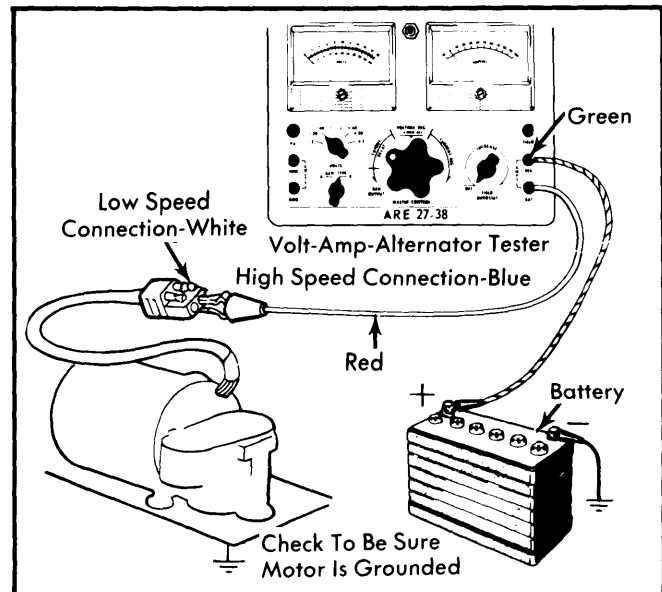

Fig. 3 Motor Current Draw Test Bronco and "F" Models
**Bronco and "F" Models** — Disconnect linkage from motor and disconnect electrical plug from motor. Connect green lead from a volt-amp meter to battery positive post and positive (red) lead from meter to low speed connection at plug. Check current draw. Move positive (red) lead from meter to high speed connection at plug and check current draw. Current draw should not exceed 3.0 amperes at either connection. See Fig. 3.